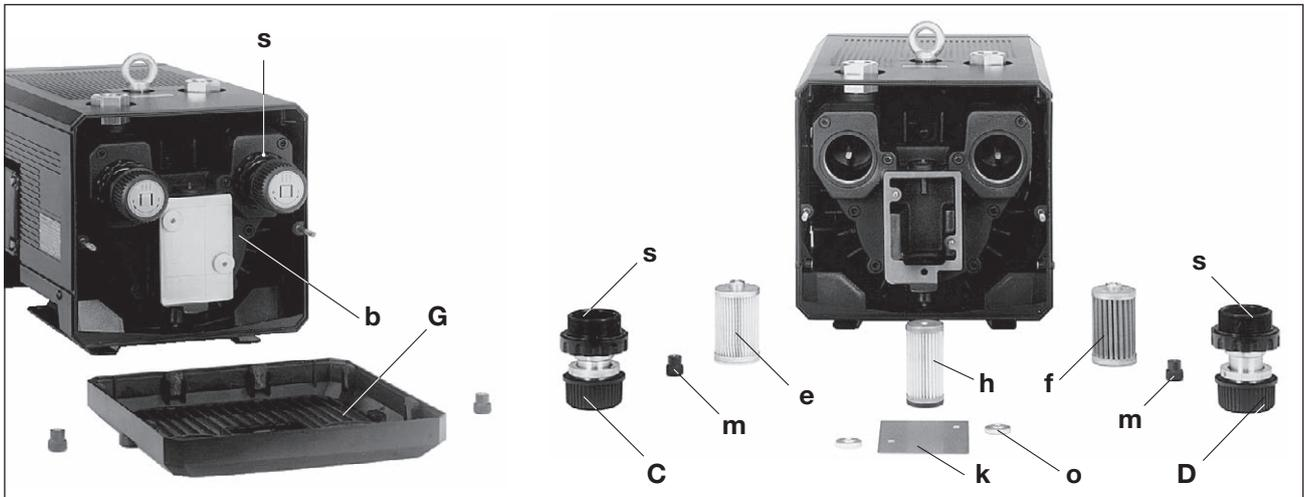
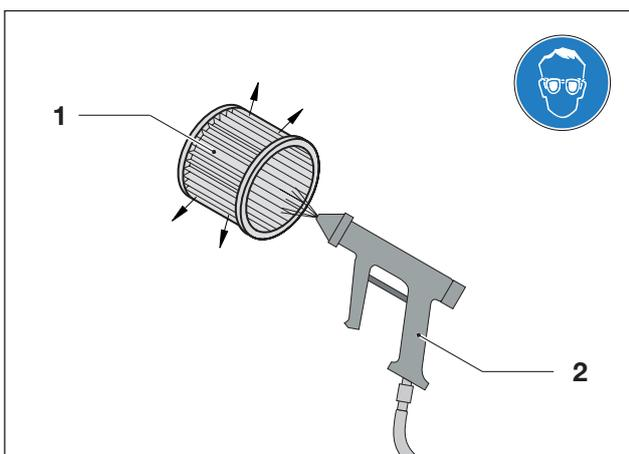
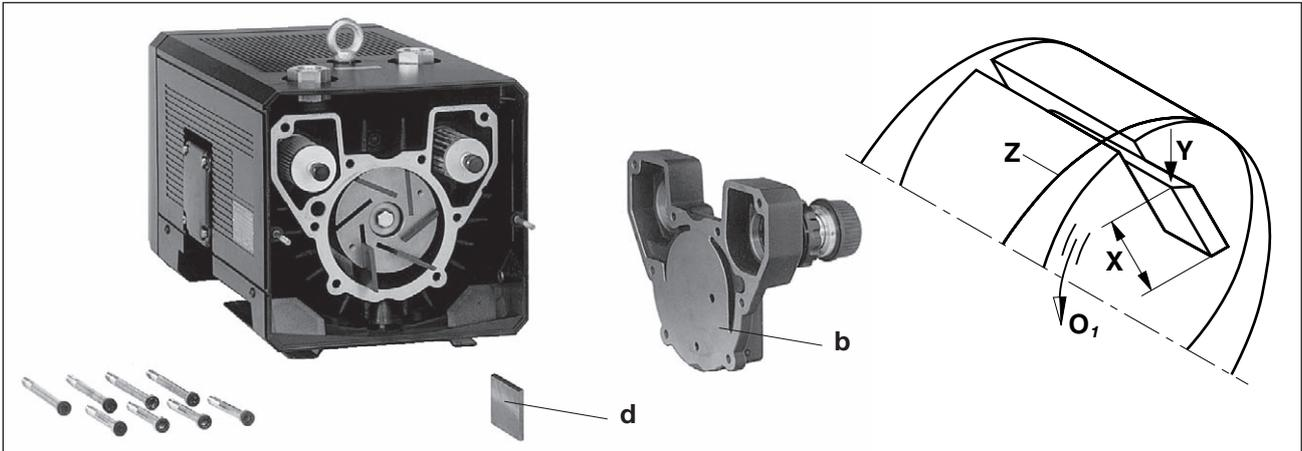

Fig. 5 Air filtering
Fig. 6 Purging filter cartridge
Fig. 7 Changing blades
The filter cartridges (Fig. 5/e) for intake air, (Fig. 5/f) for blowing air and (Fig. 5/h) for air charging must be cleaned every month or more often depending on how dirty they are by blowing out from inside to outside. In spite of cleaning the filters their separation efficiency will continue to deteriorate. Therefore the filters should be replaced every six months.
V-KTN(01 → 06) and (08 → 10): Unscrew the outlet grid (Fig. 5/G).
Undo the screw cap (Fig. 5/s) and the knurled knob (Fig. 5/m). Undo the knurled nut (Fig. 5/o) and remove the filter cover (Fig. 5/k). Remove and clean or replace filter cartridges (e), (f) and (h). Reassemble in reverse order.
V-KTN (01) - (09): Unscrew the outlet grid (Fig. 5/G). Unscrew the housing cover (Fig. 7/b) from the housing. Remove the blades (Fig. 7/d) to be checked. All blades must have a minimum height (Fig. 7/X):
Changing blades: If you detect during the blade check that the minimum height has been reached or it has fallen below the minimum height, the blade set must be changed. Blow out the housing and the rotor slot. Insert the blades into the rotor slot. When doing this you must ensure that the blades with the sloping side (Fig. 7/Y) point outwards and the direction of rotation of these sloping sides (Fig. 7/O₁) matches that of the drilled holes for the housing (Fig. 7/Z). Screw on the housing lid (Fig. 6/b) and outlet grid (Fig. 5/G). Before starting up check that the blades run freely by moving the fan round, for it unscrew the inlet grating (Fig. 2/G₁) or the cover (Fig. 3/G₂).